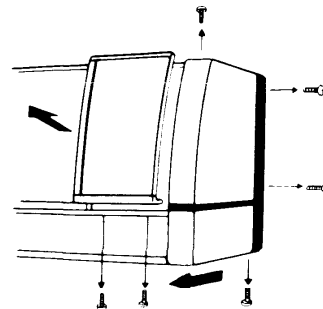

Fig. 13
- b) Unscrew 6 screws and slide out the cabinet. Fig. 13